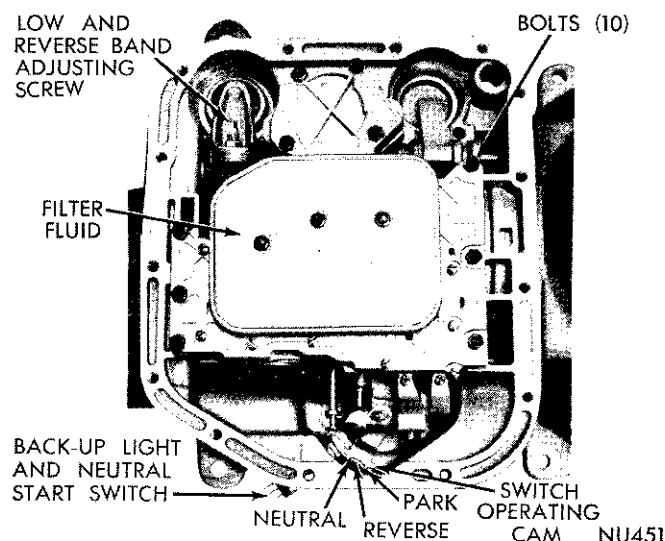

Fig. 10—Bottom View of Transmission (Pan Removed)
(1) Raise vehicle, drain transmission fluid and remove oil pan.
(2) Loosen adjusting screw lock nut and back off nut approximately five turns (Fig. 10). Inspect adjusting screw for free turning in the lever.
(3) Using wrench, Tool C-3380 with adapter C-3705, tighten band adjusting screw to 47 to 50 inch-pounds.